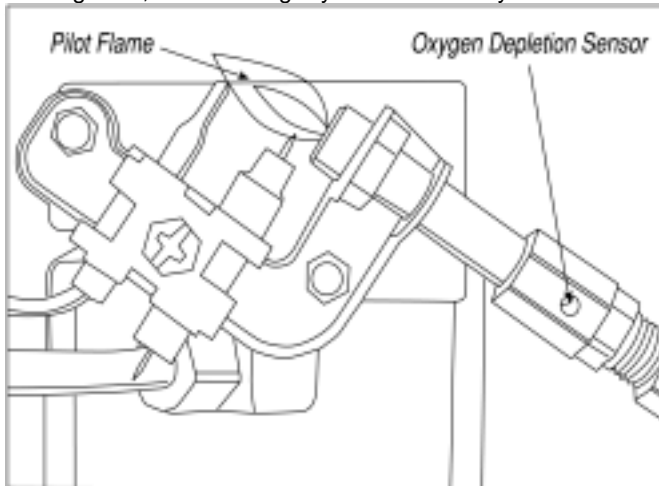

Figure 2
Visually inspect the pilot flame and burner periodically during use. The pilot flame should be blue in color (not yellow) and will extend beyond the thermocouple. The flame will surround the thermocouple just below the tip, see Figure 2, below. A slight yellow flame may occur where
- 4 Remove (1) burner assembly retaining screw from bottom of the heater.
- 8 Inspect and clean pilot (mounted to bracket) by using a vacuum or apply air pressure through the holes in the pilot indicated by the arrows in Figure 2, at left.